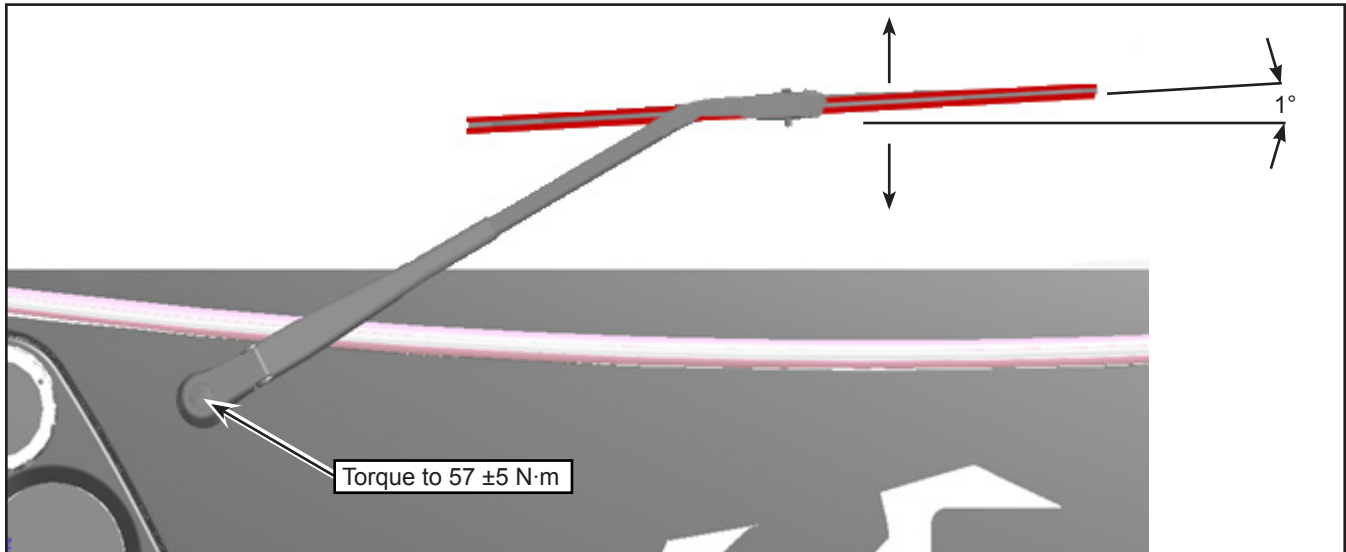

Figure 12 - Adjust the Wiper Arm
- 1.30. Adjust the curb side wiper arm up or down as required. At installation, the angle should be 1° for the wiper blade on the curb side, see Figure 12, and 2° on the street side.